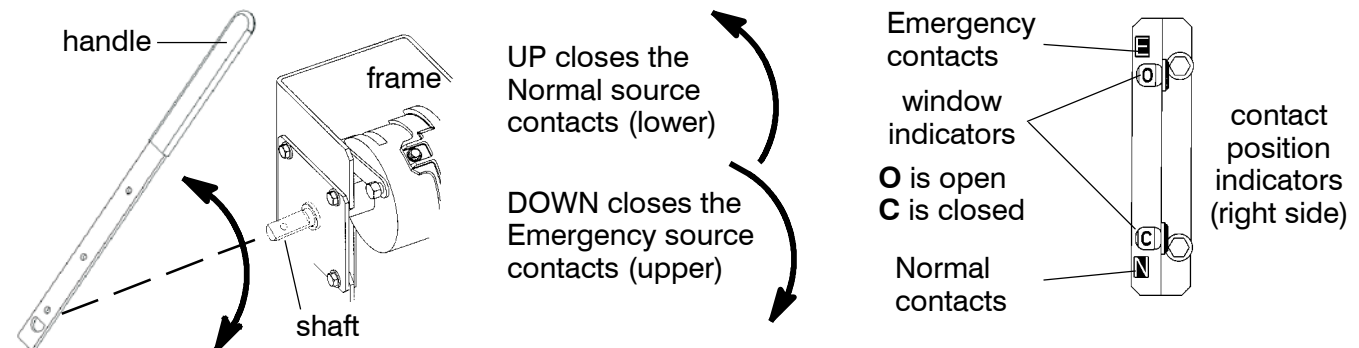

Figure 2-1. Maintenance handle operation and contact position indicators.
1. Bypass, isolate, and withdraw the transfer switch (pages 3-1 through 3-4). Then locate and remove the maintenance handle from the clip (inside lower left side). Insert the handle into the hole in the molded hub on the left side of the operator of the transfer switch. See Figure 2-1 and Table C.